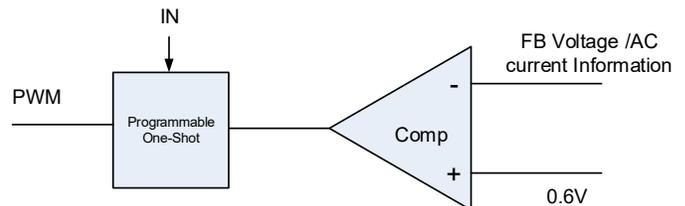

Figure 4. Simplified Control Schematic of AOZ22559QI
The simplified control schematic is shown in Figure 4. The high-side switch on-time is determined solely by a one-shot whose pulse width can be programmed by one external resistor and is inversely proportional to input voltage (IN). The one-shot is triggered when the internal 0.6V is higher than the combined information of FB voltage and the AC current information of inductor, which is processed and obtained through the sensed lower-side MOSFET current once it turns-on. The added AC current information can help the stability of constant-on-time control even with pure ceramic output capacitors, which have very low ESR. The AC current information has no DC offset, which does not cause offset with output load change, which is fundamentally different from other  $V^2$  constant-on-time control schemes.
The relation between the input capacitor RMS current and voltage conversion ratio is calculated and shown in Figure. 4. It can be seen that when  $V_{OUT}$  is half of  $V_{IN}$ ,  $C_{IN}$  is